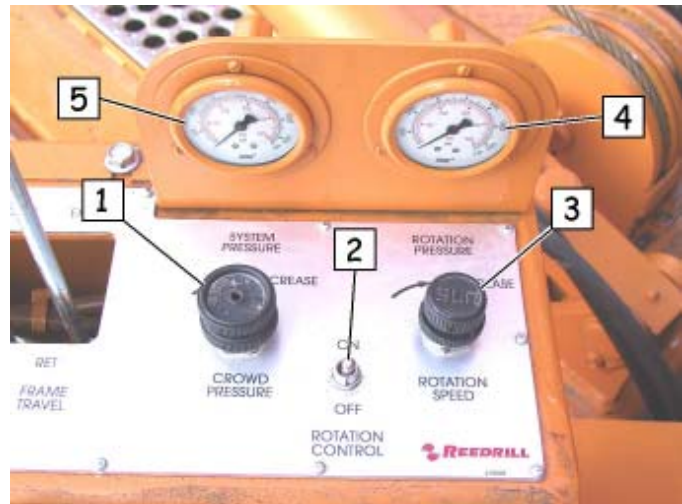

Fig. 3-7a Main Control Valve Console - Right Side
To change the amount of crowd force exerted on the auger, turn the crowd pressure control knob (item 1, fig. 3-7a):
Read pressure on the system pressure gauge (item 5, fig. 3-7a).